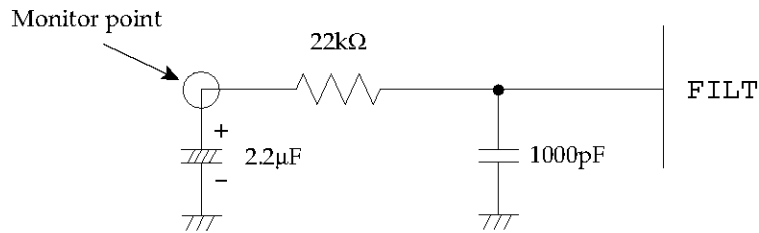

Figure 10 FILT Recommended Circuit
- Adjust the voltage of monitor point in Figure 10 to $1/2V_{DD} \pm 10\%$ by the LC oscillation constant 'L' or 'C' to lock the PLL circuit.